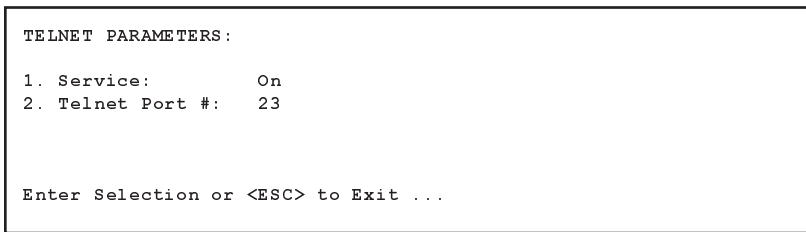

Figure 5.11: Telnet Parameters Menu - Text Interface
**Text Interface:** Type **/T** and press **[Enter]**. The Telnet Parameters Menu will be displayed as shown in Figure 5.11.